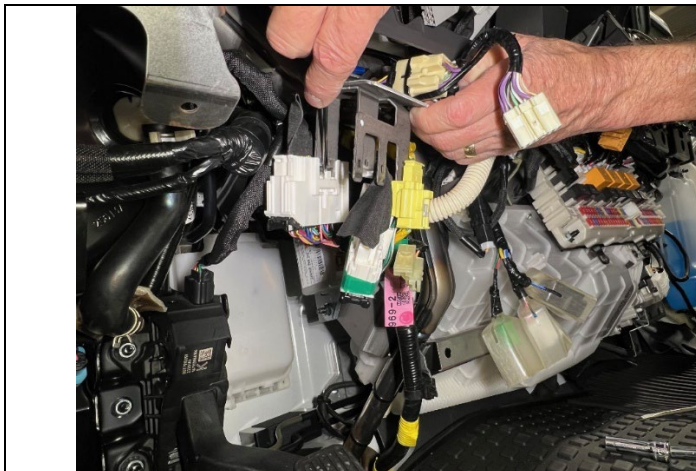

Figure 25
27. Remove the H99 connector by carefully lifting the white tab on the connector and sliding it off the bracket. (See Figure 25.)